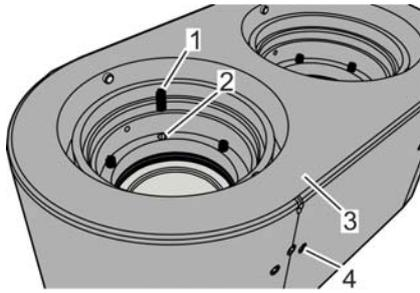

Fig. 112: Removing the compression springs
- 11. ▶ Remove the compression springs (Fig. 112/1) from the boreholes (Fig. 112/2) of the bearing housing (Fig. 112/3) and place to the side.
- 12. ▶ Unscrew the screw plugs (Fig. 112/4) from the bearing housing and place to the side.